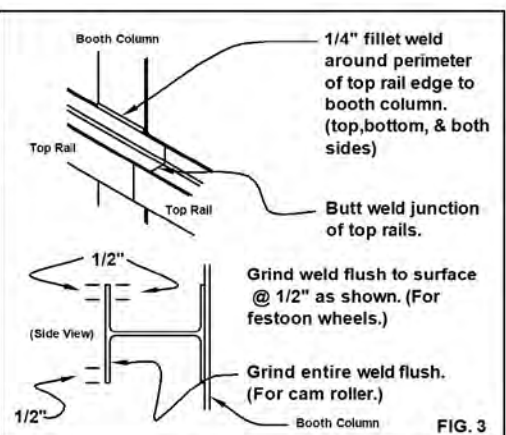

FIG. 3
- C. Weld the top rail to the vertical rail supports (see figure 3). The welds should be continuous $\frac{1}{4}$ " fillet weld around the perimeter of the contact surfaces.